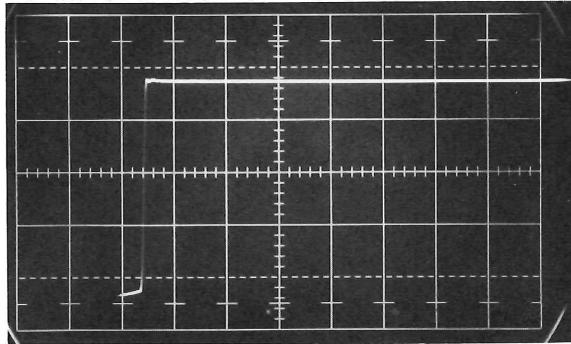

Figure 16
- a. It may be helpful to set B TIME/CM to a slower range when adjusting for best flat top. Max. allowable aberration: 2% p-p. See Figure 16.